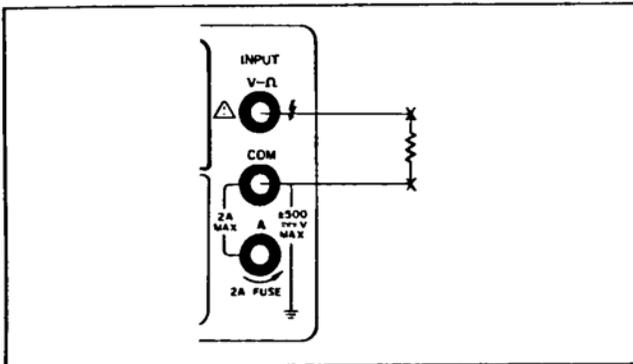

Figure 3-11. Resistance Measurement
- c. Connect test leads from the Multimeter VΩ (+) and COM (-) terminals to the resistance under test as shown in Figure 3-11.